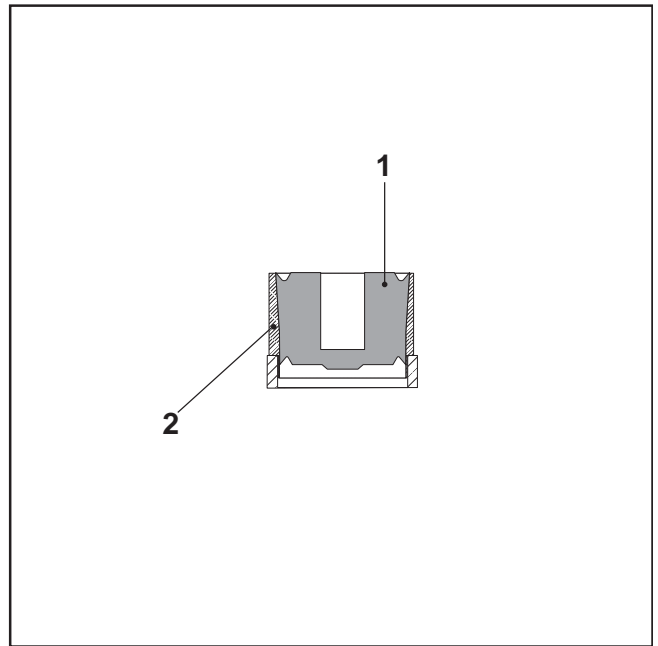

FIG.46
- Lubricate the piston (FIG.46-REF. 1) with Vaseline, and slide the piston into the tapered part of the guide ring (FIG.46-REF. 2).